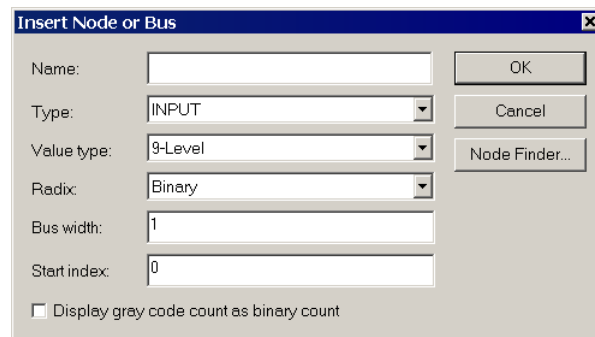
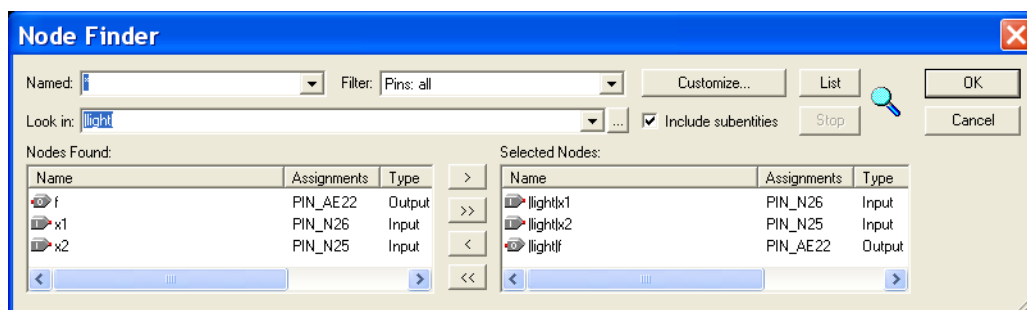
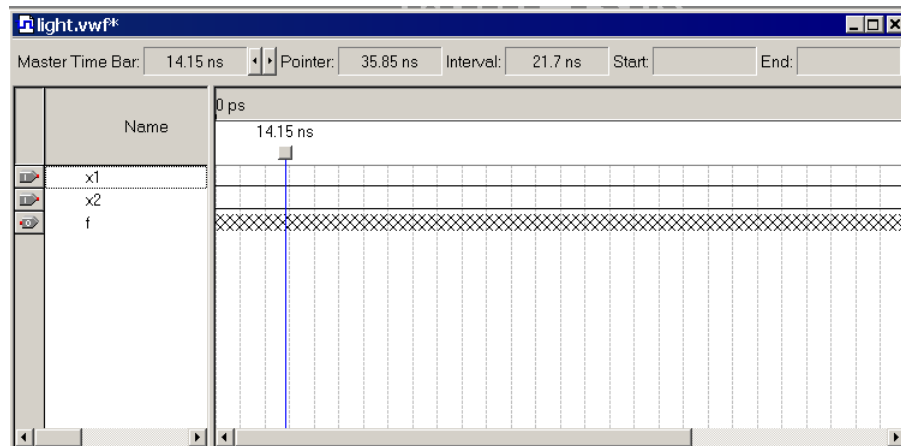

Figure 36. The Insert Node or Bus dialogue.
Figure 37. Selecting nodes to insert into the Waveform Editor.
Figure 38. The nodes needed for simulation.
- Next, we want to include the input and output nodes of the circuit to be simulated. Click **Edit > Insert Node or Bus** to open the window in Figure 36. It is possible to type the name of a signal (pin) into the Name box, but it is easier to click on the button labeled **Node Finder** to open the window in Figure 37. The Node Finder utility has a filter used to indicate what type of nodes are to be found. Since we are interested in input and output pins, set the filter to **Pins: all**. Click the **List** button to find the input and output nodes as indicated on the left side of the figure.
Click on the $x1$ signal in the Nodes Found box in Figure 37, and then click the > sign to add it to the Selected Nodes box on the right side of the figure. Do the same for $x2$ and f . Click OK to close the Node Finder window, and then click OK in the window of Figure 36. This leaves a fully displayed Waveform Editor window, as shown in Figure 38. If you did not select the nodes in the same order as displayed in Figure 38, it is possible to rearrange them. To move a waveform up or down in the Waveform Editor window, click on the node name (in the Name column) and release the mouse button. The waveform is now highlighted to show the selection. Click again on the waveform and drag it up or down in the Waveform Editor.